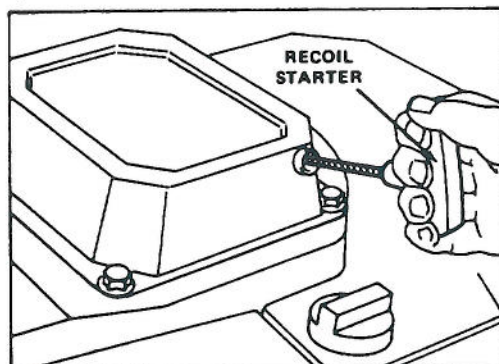

Figure 10
3. **FINGERTIP STARTING** — Move throttle to **CHOKE**. Pull engine mounted fingertip starter (Fig. 10) and regulate throttle as desired when engine starts.
**Note:** If battery is discharged, engine can be started with the recoil starter (Fig. 10).